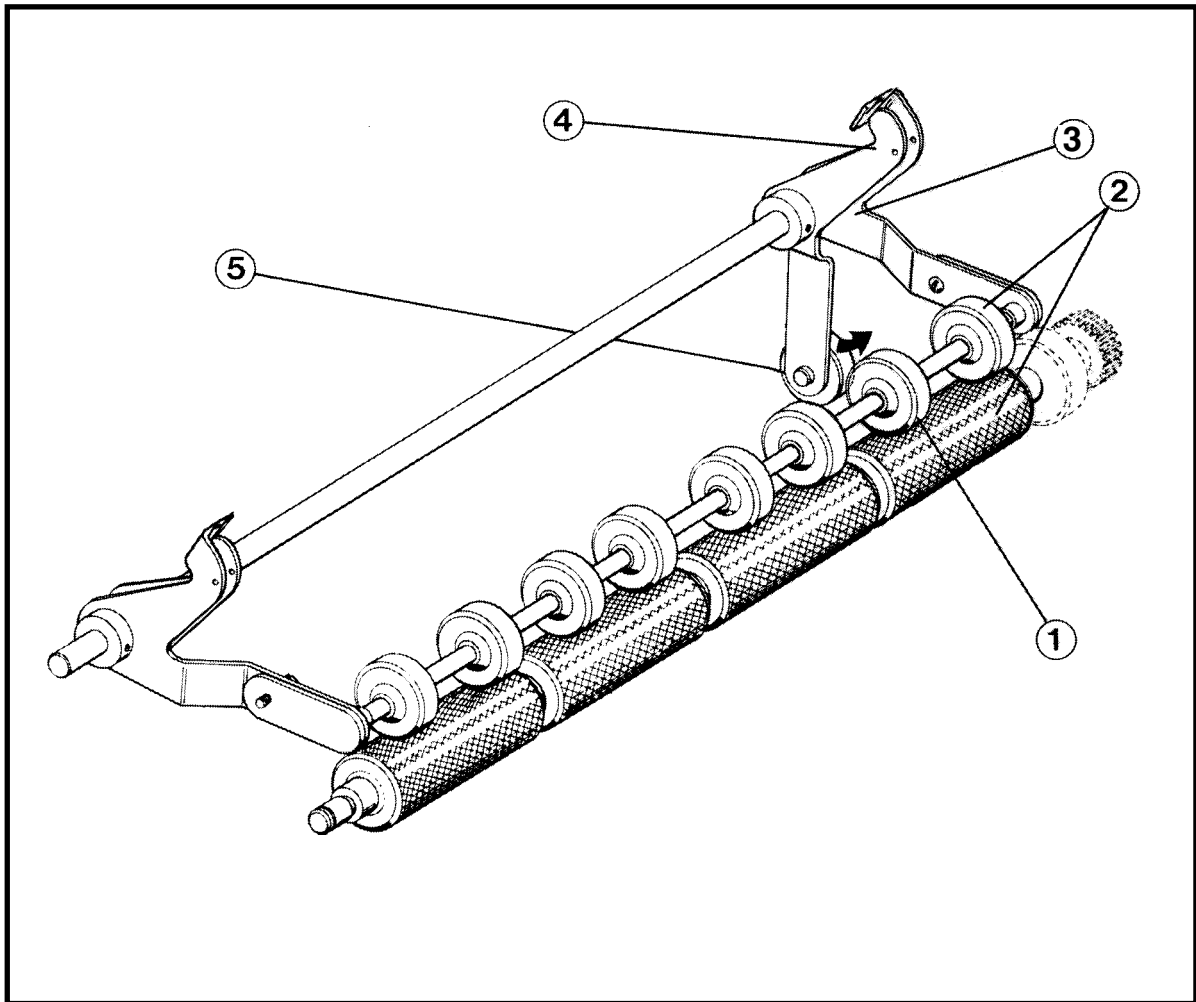

Figure 83 - Forwarding Rollers
4. Disconnect the forwarding roller springs and place a cotton pad (1) between the forwarding rollers (2) (see Figure 83). Place another cotton pad between lever (3) and arm (4) which will move the truck (5) away from the impression cylinder.